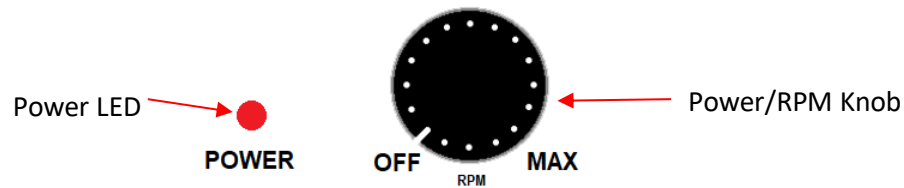

Fig.6
Momentarily switch **ON** Power button (Fig. 6 below) by turning the RPM knob to check whether it's Power (Red) LED is lighted up. In event that the connection is reversed, the tester will not power up and the LEDs will not light up.
2. Then switch ON the power by turning the RPM knob (Fig. 6 above) clockwise and slowly increase the RPM speed and observe that the color of the sparks which should be purplish-blue and in a straight line (see Fig.7 below) if it is normal state.
- 1. The simulated speed adjustment can be adjusted from 180 rpm to 10,000 rpm maximum with the Power/RPM knob (Fig.6).*